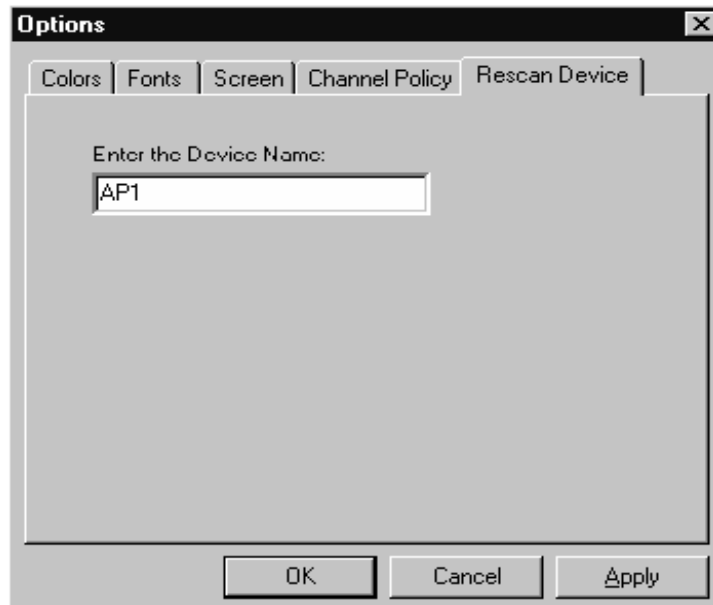

Figure 22 Options dialog Box rescan Device Tab
2. Select the Rescan Device tab, as shown in Figure 22.